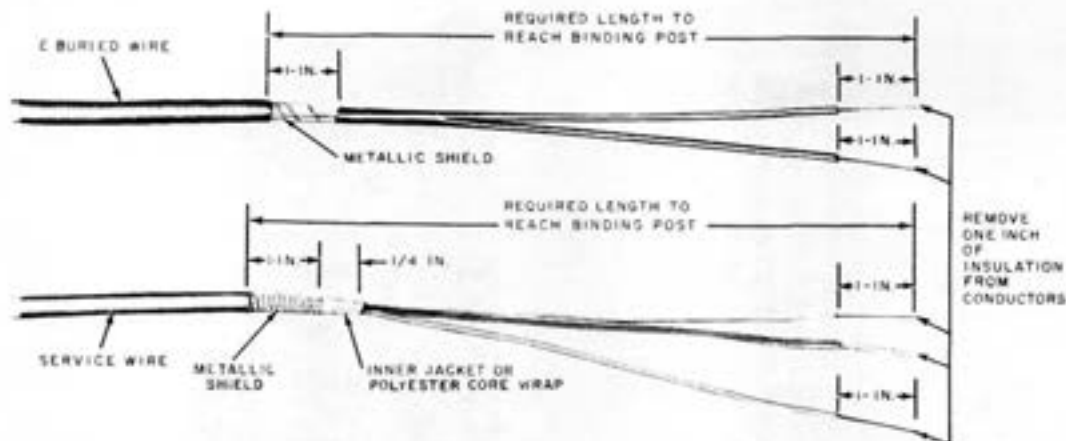
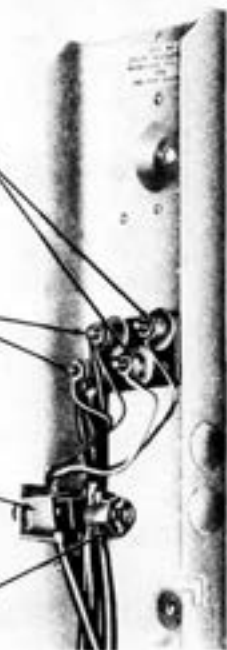

Fig. 23—Prepared Service Wire—D or E Buried Wire Terminal
Fig. 24—Service Wire Terminated—D or E Buried Wire Terminal
6.02 ¶The termination of service wire in either the D or E buried wire terminal is identical. Prepare the service wire as shown in Fig. 23 and terminate as shown in Fig. 24.¶